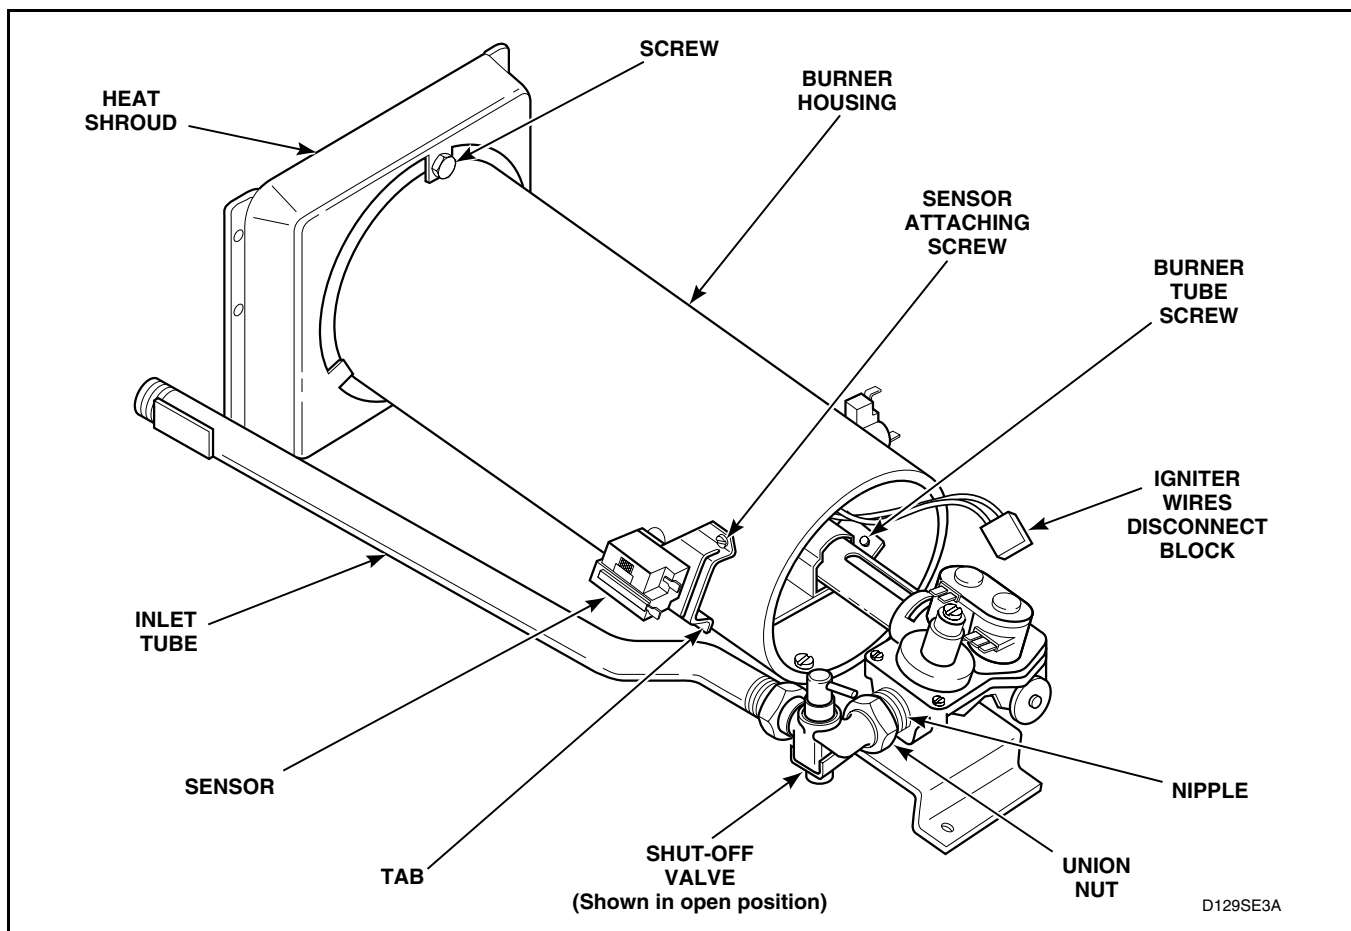
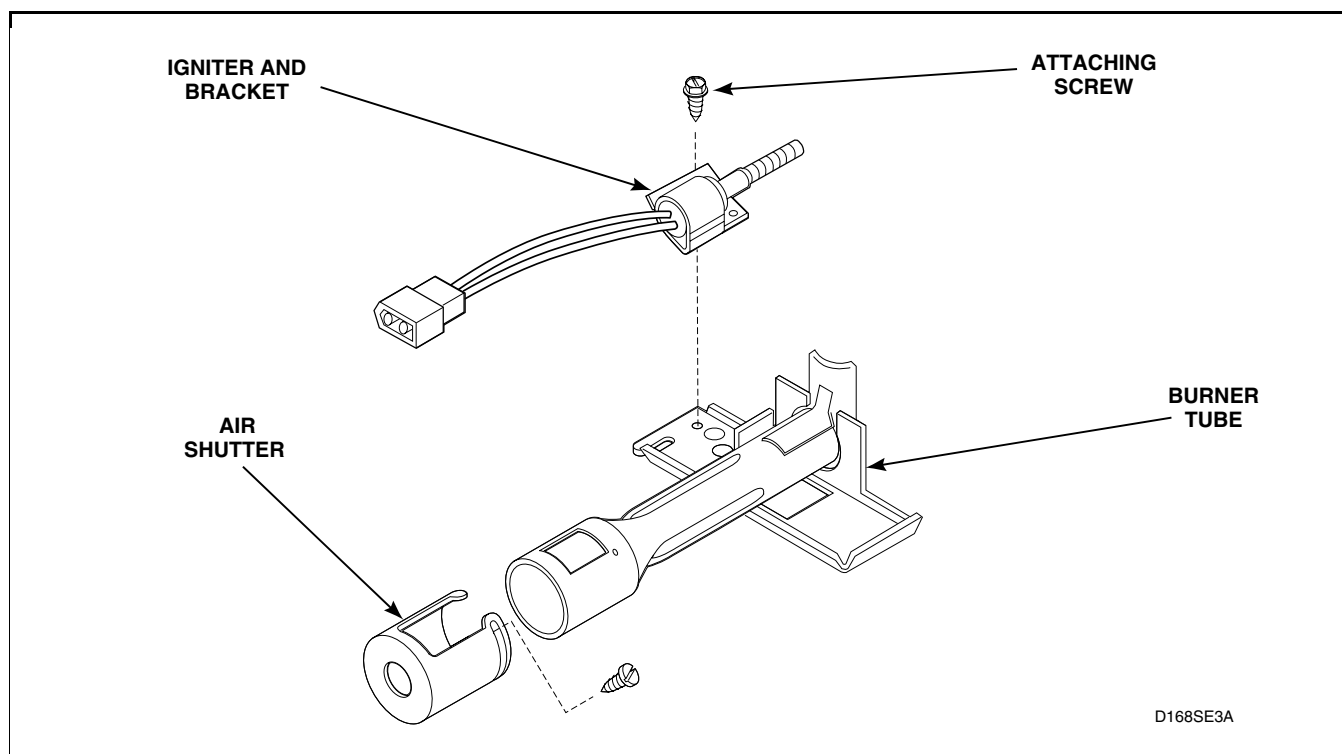

Figure 32
Figure 34
- (4) Disconnect gas shut-off valve from gas valve at the union nut. Refer to *Figure 32*.
- (5) Remove two screws holding valve and mounting bracket to base.
- (6) Slide assembly forward, then lift gas valve and mounting bracket from base. Refer to *Figure 32*.
1. Disconnect igniter wires at disconnect block. Refer to *Figure 32*.
- (1) Remove one screw from right side of burner housing holding burner tube in place. Refer to *Figure 32*.
- (2) Gently move burner tube toward rear of dryer to disengage tab from slot on left side of burner housing. Refer to *Figure 32*.
- (3) Carefully rotate burner tube and igniter counterclockwise so tab is at 8 o'clock position.
- (4) Move air shutter end of burner tube slightly to right and CAREFULLY remove burner tube and igniter assembly out through front of dryer.
- (5) Remove screw holding igniter and bracket to burner tube and remove igniter and bracket. Refer to *Figure 34*.
- (2) Gently lower the access panel to disengage guide lugs from bottom edge of front panel.
- (3) Remove wires from sensor terminals. Refer to *Figure 32*.
- (4) Remove screw holding sensor to burner housing. Refer to *Figure 32*.
1. Remove wires from sensor terminals. Refer to *Figure 32*.
- e. Gently move burner tube toward rear of dryer to disengage tab from slot on left side of burner housing. Refer to *Figure 32*.
- h. Remove screw holding burner housing to heat shroud. Refer to *Figure 32*.